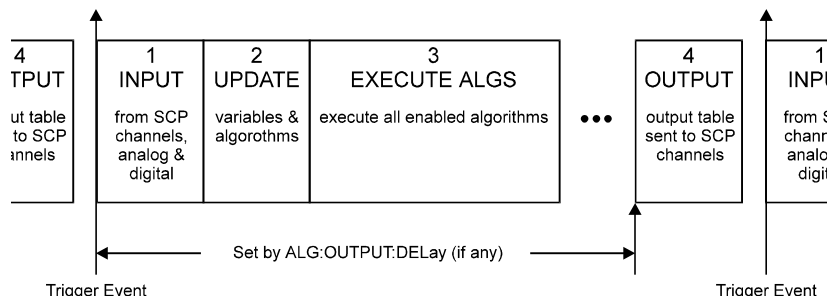

Figure 6-1 Updating Variables and Algorithms
- The algorithm output statements (e.g. O136 = Out_val) DO NOT program outputs when they are executed. Instead, these statements write to an intermediate Output Channel Buffer which is read and used for output AFTER all algorithms have executed AND the algorithm output delay has expired (see Figure 6-1). Also note that not all outputs will occur at the same time but will take approximately 10µsec per channel to write.
- Variables and algorithms can be accepted during Phase 1-INPUT or Phase 2-UPDATE in Figure 6-1 when INIT is active. All writes to variables and algorithms occur to their buffered elements upon receipt. However, these changes do not take effect until the ALG:UPD:IMM command is processed at the beginning of the UPDATE phase. The update command can be received at any time prior to the UPDATE phase and will be the last command accepted. Note that the ALG:UPD:WINDOW command specifies the maximum number of updates to do. If no update command is pending when entering the UPDATE phase, then this time is dedicated to receiving more changes from the system.
ALGORITHM:UPDATE:CHANNEL *<dig_chan>* This command is used to update variables, algorithms, ALG:SCAN:RATIO, and ALG:STATE changes when the specified digital input level changes state. When the ALG:UPD:CHAN command is executed, the current state of the digital input specified is saved. The update will be performed at the next update phase (UPDATE in Figure 6-1), following the channel's change of digital state. This command is useful to synchronize multiple HP E1419s when you want all variable updates to be processed at the same time.
- The duration of the level change to the designated bit or channel MUST be at least the length of time between scan triggers. Variable and algorithm changes can be accepted during the INPUT or UPDATE phases (Figure 6-1) when INIT is active. All writes to variables and algorithms occur to their buffered elements upon receipt. However, these changes do not take effect until the ALG:UPD:CHAN command is processed at the beginning of the UPDATE phase. Note that the ALG:UPD:WINDOW command specifies the maximum number of updates to do. If no update command is pending when entering the UPDATE phase, then this time is dedicated to receiving more changes from the system.